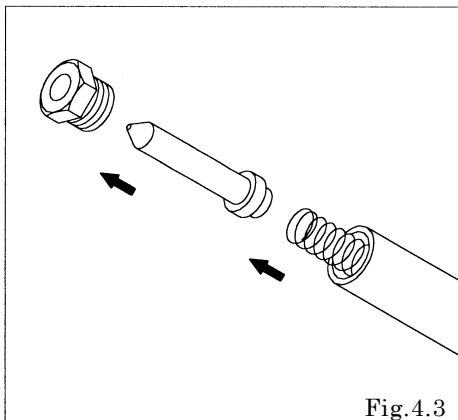

Fig.4.3
- Remove the nut, and remove the valve from the center rod. [Fig. 4.3]